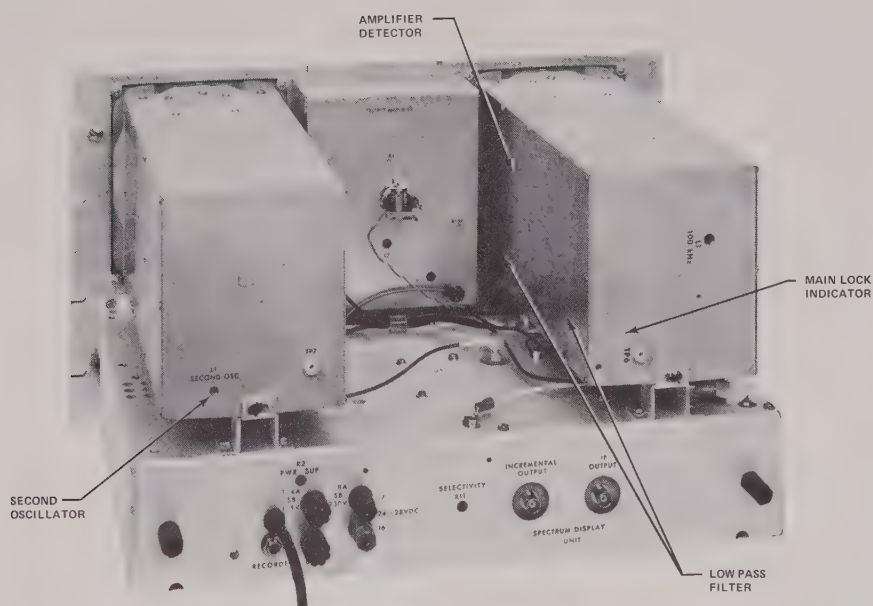

Figure 7-3. Rear View, Module Location
7.09 Locations of module and calibration adjustment points are given in Figures 7-3, 7-4, 7-6, 7-7, 7-9, and 7-10.